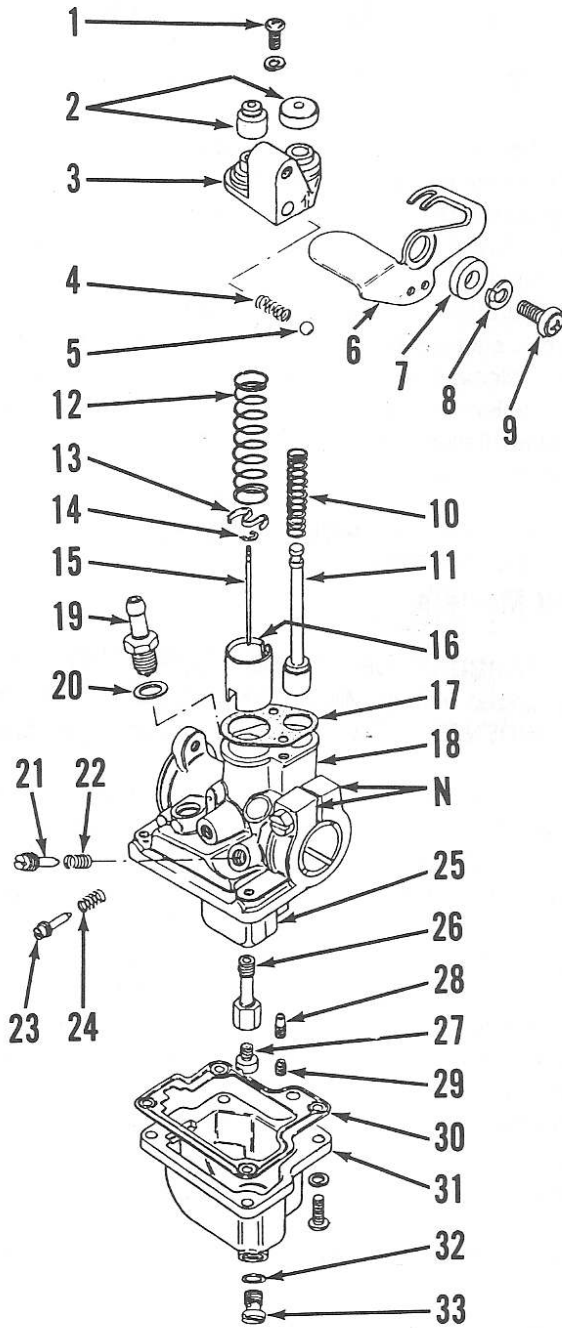

Fig. S1-4—Exploded view of Mikuni VM12SC carburetor used on both models. Carburetor identification number is located at (N).
The carburetor should be removed, disassembled and cleaned annually. Disassembly of the removed carburetor is evident after inspection of unit and referral to exploded view in Fig. S1-4. Carefully inspect jet needle (15), inlet valve (19), idle mixture screw (21) and idle speed screw (23) for excessive wear and damage.